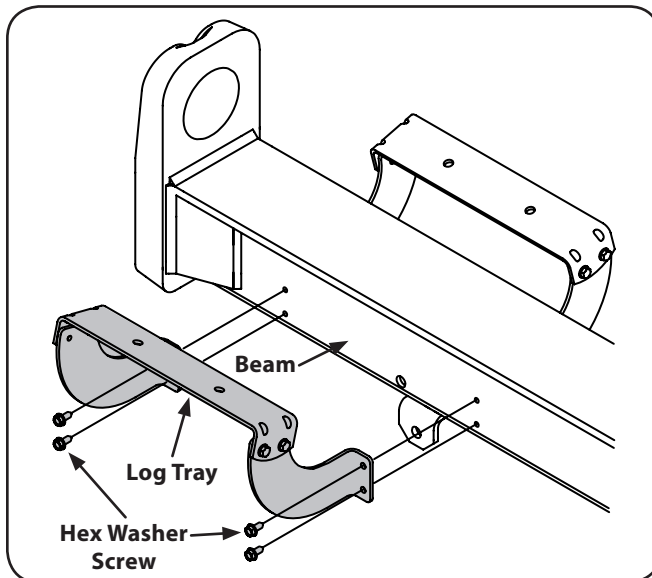

Figure 3-7
18. Reattach the log tray to the side of the beam with the control valve, aligning the holes in the tray with the holes in the beam. See Fig. 3-7.